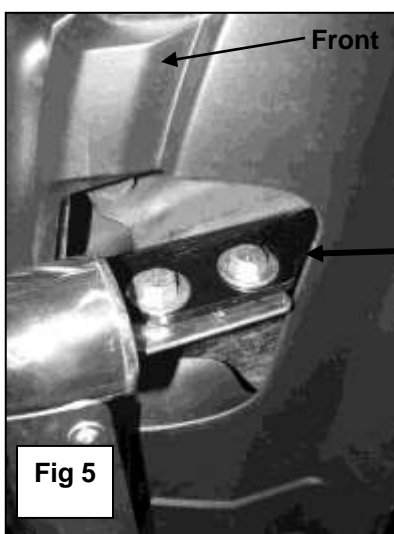

Fig 5
4. With help position the Bull Bar on the inside of the Mounting Brackets. Use the included (4) 12mm x 35mm Hex Bolts, (4) 12mm lock Washers, (8) 12mm Flat Washers and (4) 12mm Hex Nuts to attach the Bull Bar to the Mounting Brackets, **(Figure 5)**. Do not tighten at this time.